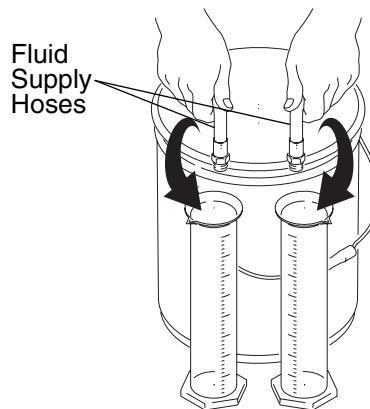

FIG. 4 Checking Mix Ratio
4. Place the hose ends into a waste container. Set two graduated cylinders of the same size next to the waste container. See FIG. 4.
Be sure to connect the hoses back to the same valves they had originally been connected to. The mix manifold could be damaged by reversing them. See FIG. 4.